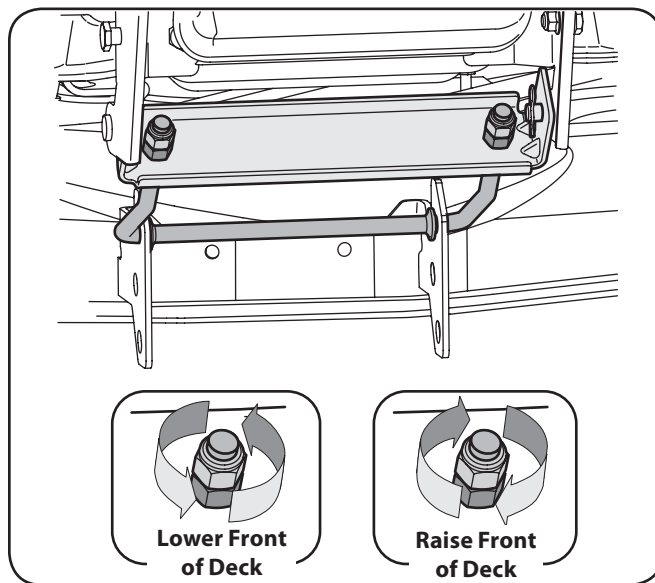

Figure 6-6
- Working at the front of the tractor, loosen the two hex lock nuts at the front of the deck hanger rod. Thread the lock nuts away from the hex nuts behind them. Refer to Fig. 6-6.
- Use an open end wrench to turn the inner hex nuts to adjust the front of the deck. Turn the hex nuts clockwise to raise the front of the deck, or counterclockwise to lower the front of the deck. Adjust the hex nuts evenly so that the deck hanger rod is at the front of both slots in the hanger bracket on the front of the deck. See Fig. 6-6.